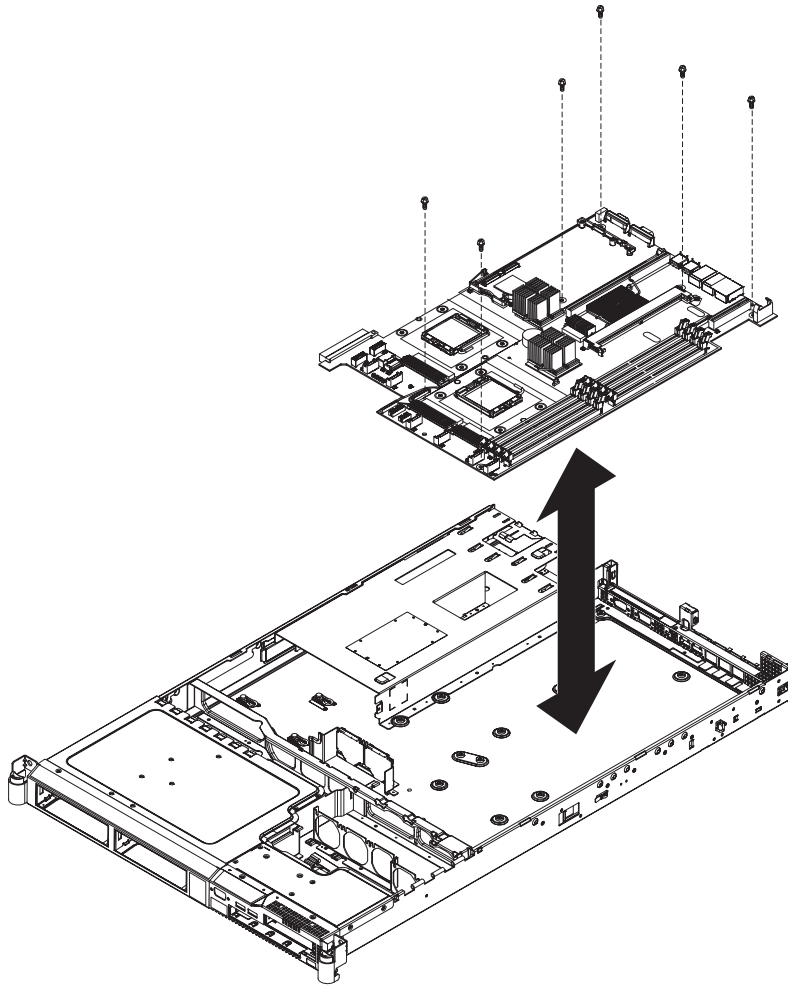

Figure 210. The placement of the screws that secure the SAN Volume Controller 2145-8G4 system board
2. Replace the six screws on the system board, as shown in Figure 210 on page 228, to secure the system board to the chassis.